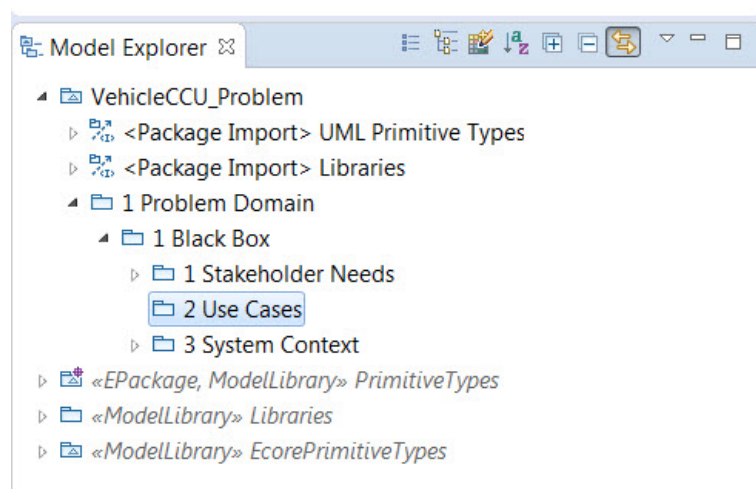

Figure 25: Use Case Package
1. Set up a new package under the *1 Black Box* package named *2 Use Cases* by Right-clicking on the *1 Black Box* package in the *Model Explorer* window and selecting **New Child** and then **Package**. Name the new package *2 Use Cases* (figure 25).